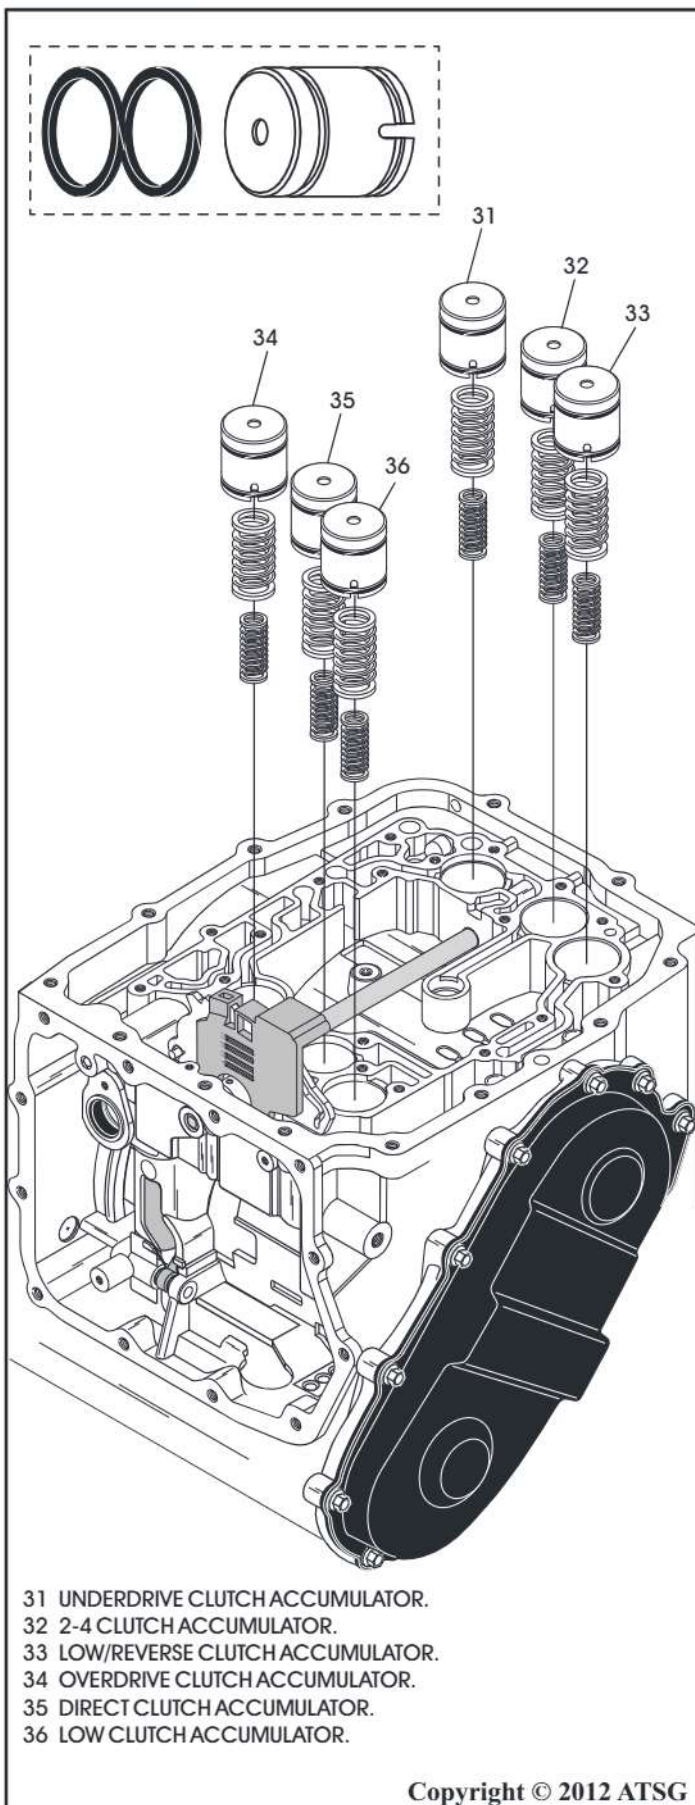

Figure 273
77. Install all 6 of the accumulator piston and spring assemblies in their respective bores, as shown in Figure 273.